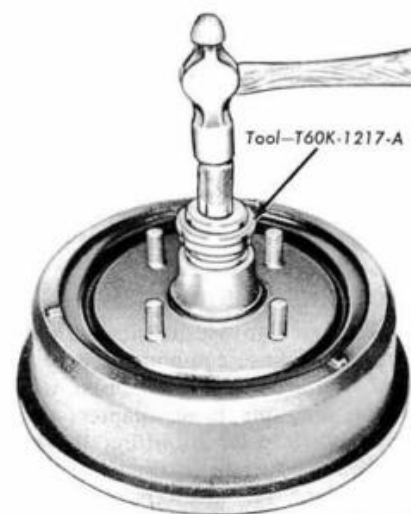

FIG. 6—Installing Front Wheel Bearing Cup—Falcon 6-Cylinder
9. If the inner and/or outer bearing cups(s) were removed, install the replacement cup(s) in the hub with the tool shown in Figs. 6 or 7. **Be sure to seat the cups properly in the hub.**
12. Place the inner bearing cone and roller assembly in the inner cup, and install the new grease retainer with the reverse end of the tool shown in Figs. 6 to 7. **Be sure that the retainer is properly seated.**
11. If the inner and / or outer bearing cup(s) were removed, install the replacement cup(s) in the hub with the tool shown in Figs. 6 or 7.
14. Place the inner bearing cone and roller assembly in the inner cup, and install the new grease retainer with the reverse end of the tool shown in Figs. 6 or 7. **Be sure that the retainer is properly seated.**
4. Remove the protective coating from the new hub and drum with carburetor degreaser. Install new inner and outer bearing cups in the new hub with the tool shown in Figs. 6 or 7. **Be sure to seat the cups properly in the hub.**
7. Place the inner bearing cone and roller assembly in the inner cup, and install the new grease retainer with the reverse end of the tool shown in Fig. 6 or 7. **Be sure that the retainer is properly seated.**
4. Remove the protective coating from the new hub and rotor with carburetor degreaser. Install new inner and outer bearing cups in the new hub with the tool shown in Figs. 6 or 7. **Be sure to seat the cups properly in the hub.**
7. Place the inner bearing cone and roller assembly in the inner cup, and install the new grease retainer with the reverse end of the tool shown in Figs. 6 or 7. **Be sure that the retainer is properly seated.**